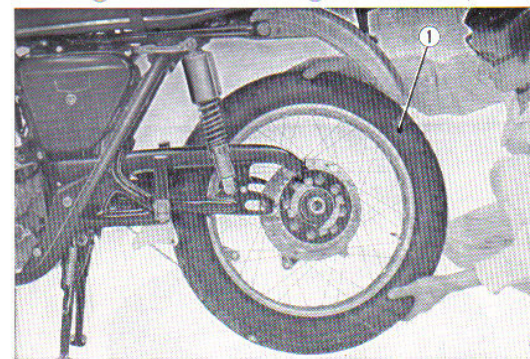

Fig. 4.91 Removing the rear wheel ① Rear wheel
① Drive chain ② Drive chain clip
4. Remove the rear axle nut and extract the rear wheel axle. Tilt the rear wheel, and remove. (Fig. 4.91)